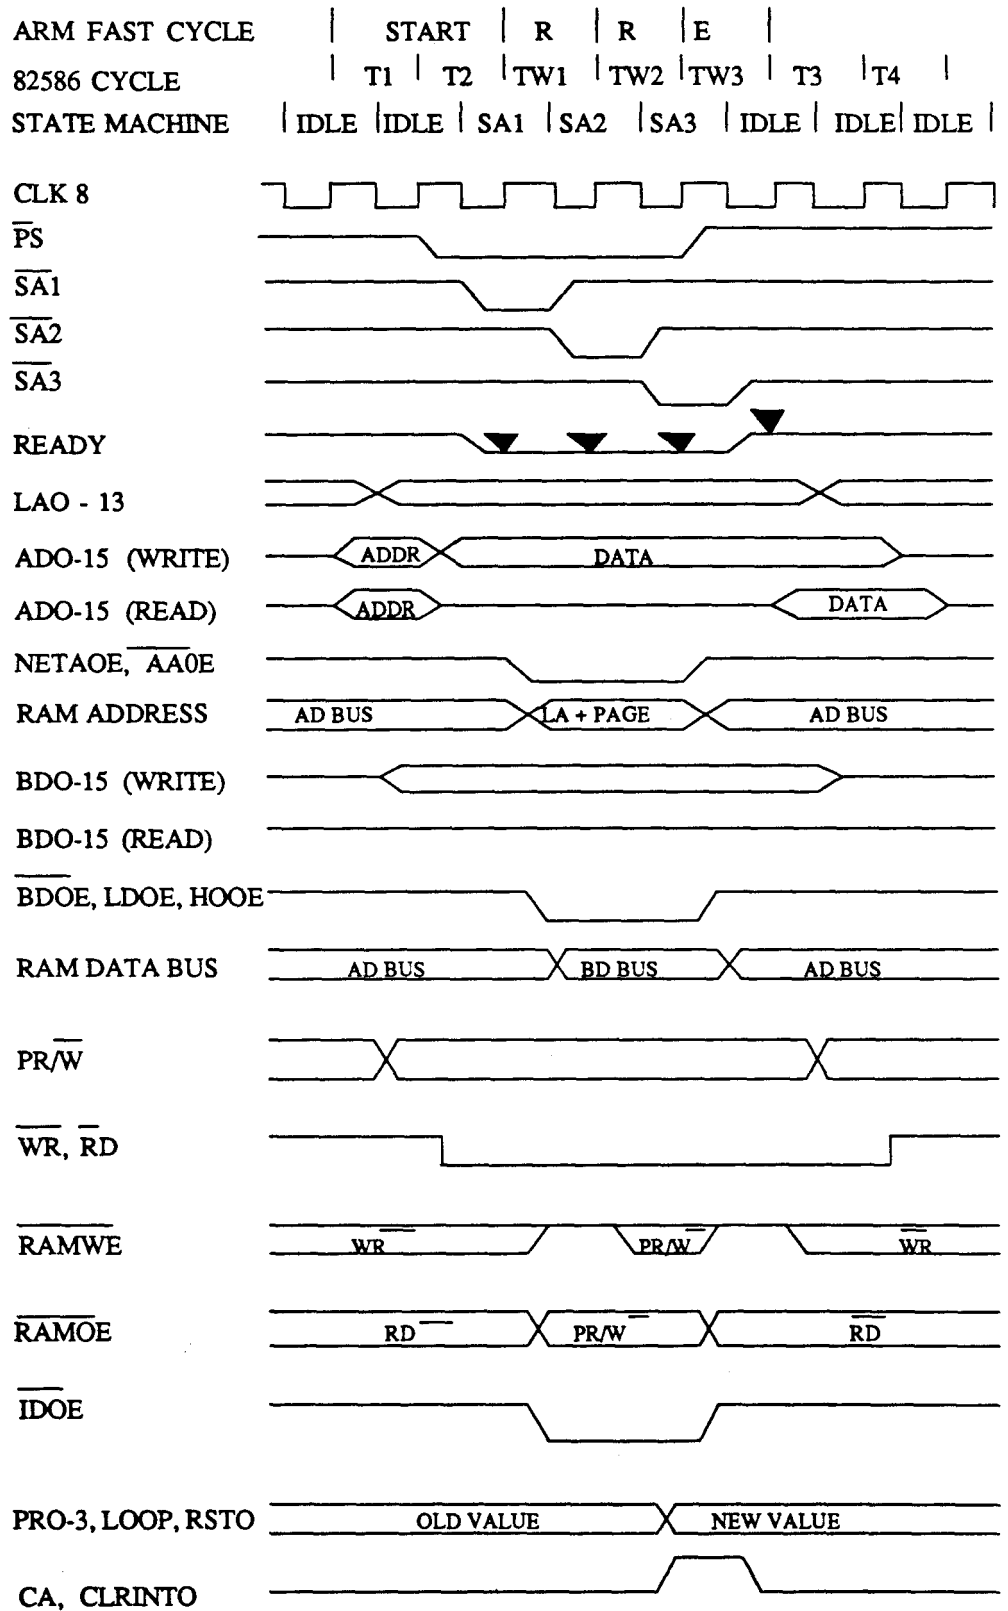

Figure 21.3: Typical podule bus cycle
Figure 21.3 below illustrates a read/write to RAM while the net controller is active. The cycle starts with podule select (PS) active and puts the state machine into the SA1 state on the next clock edge. A description of each state that follows is given above.